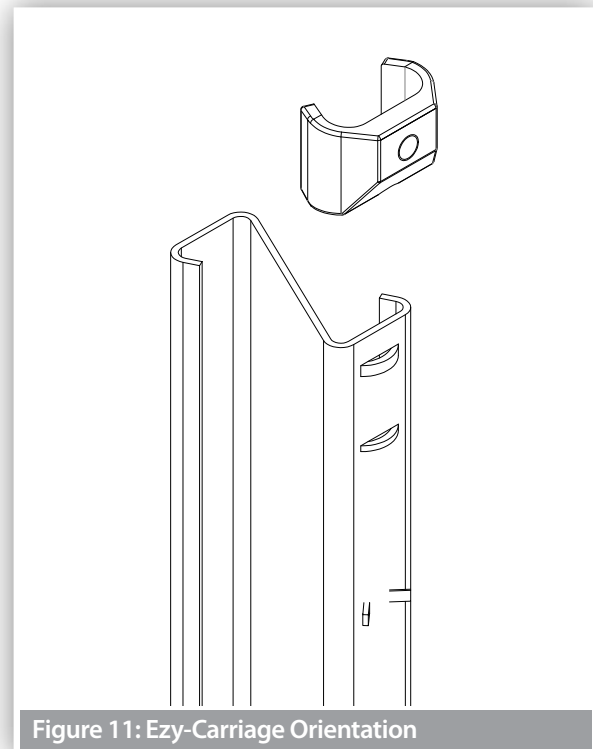

Figure 11: Ezy-Carriage Orientation
3. The post in relation to the direction of traffic is orientated as per Figure 11 and 12.